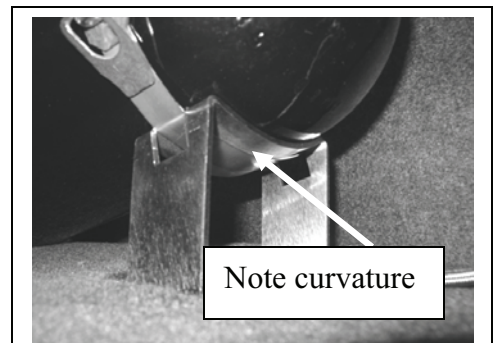

FIGURE 14
25. Using the rivnut gun, install the four rivnuts (00-9006-C08972*) into the four freshly drilled holes, and position the brackets (00-1904-C08221*). Tighten the bolts (00-9001-C07204*) into the rivnuts. Make sure to keep taller bracket towards the front of the vehicle, and orient both brackets so that the center portion slopes up towards the front of the car – the goal is to mount the nitrous bottle with the nozzle end towards the front and tilted up (**FIGURES 14, 15**).